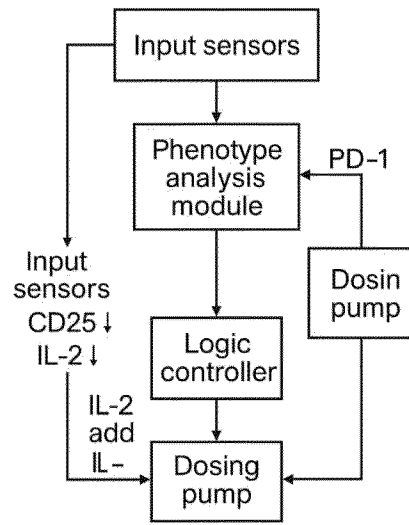

FIGURE 2
- **FIGURE 2:** Bioreactor System Architecture